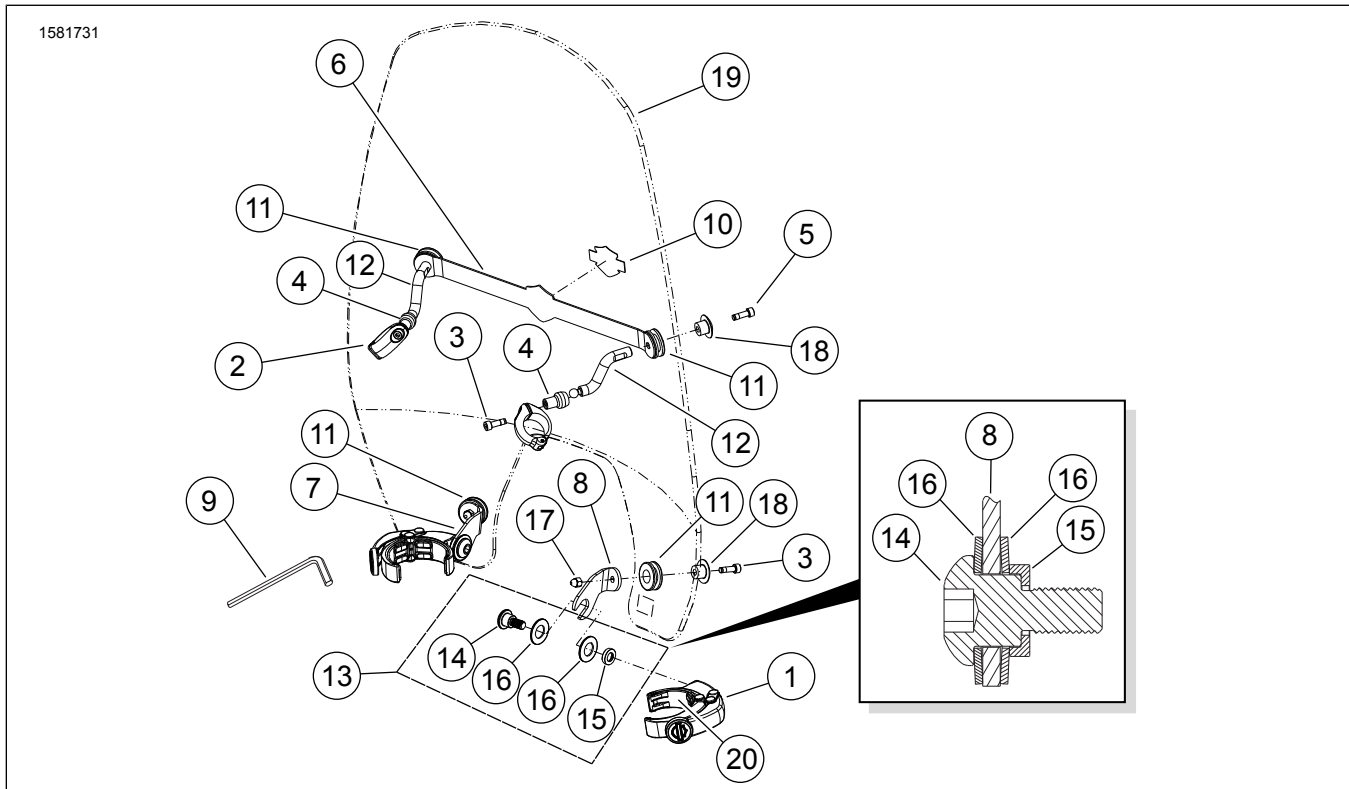

Figure 1. Service Parts: VRSCDX Windshield
See Figure 1 and Table 1.
1. See Figure 1. Obtain the windshield assembly (with mount brackets 7 and 8 installed), two quick clamps (1), and two hardware kits (13) from the Windshield Kit.
2. Install two Belleville washers (16) onto the threads of each screw (14) as shown in the inset, so the outer diameters are in contact. Install a cup washer (15) onto each screw, with the cupped side facing the screw head.